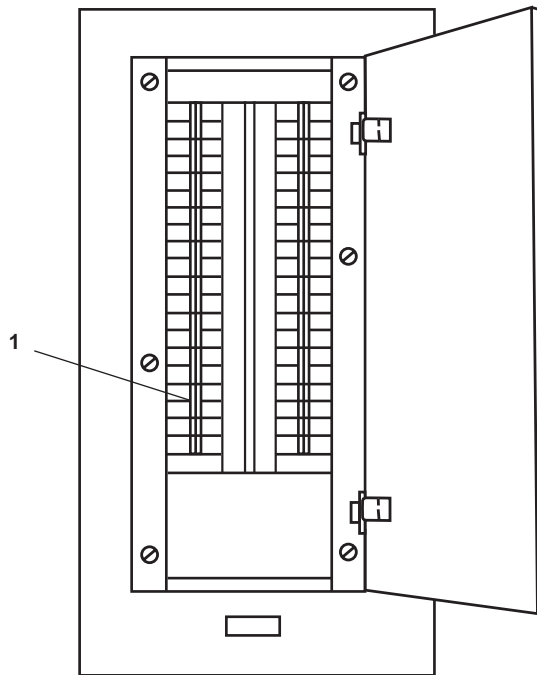

Figure 7. 120V Power Panel No. 4
- (2) Set the J.B. FOR AUTO DRAIN ON AIR RECEIVER. (INC REFER. DRYER.) circuit breaker (figure 7, item 1) on 120V distribution panel No. 4 to OFF.